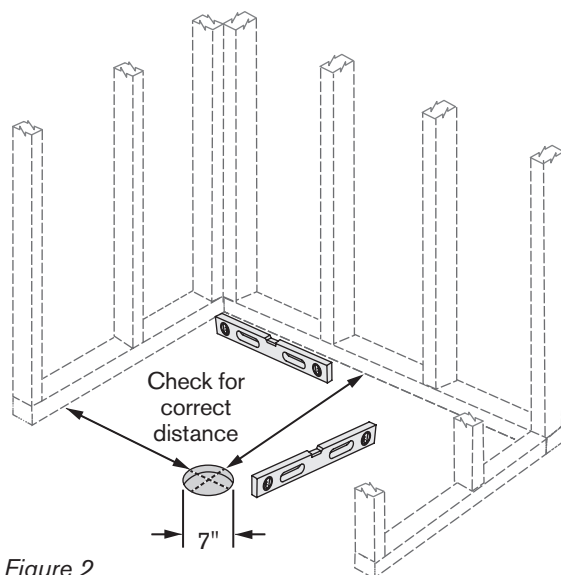

Figure 2
- 1** Check shower pocket area for level and for correct dimensions. Make sure drain hole in floor is the correct distance from studs and 7" diameter (or 7" x 7" square). The floor must be within 1/8" of level, especially around drain box-out. (Figure 2)